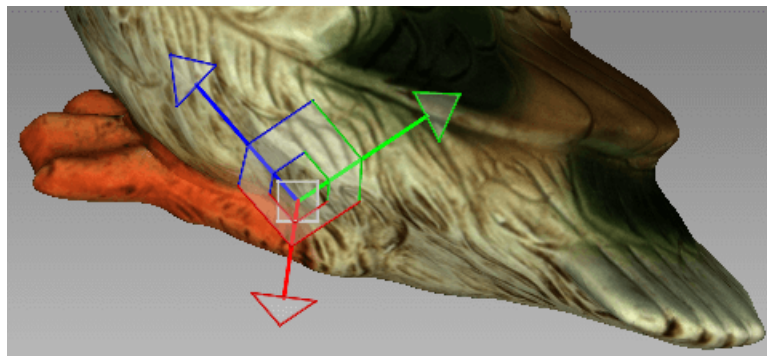

Figure 100: Translation control
- Translate the object in the *3D View* window by dragging the corresponding control (see Figure 100):